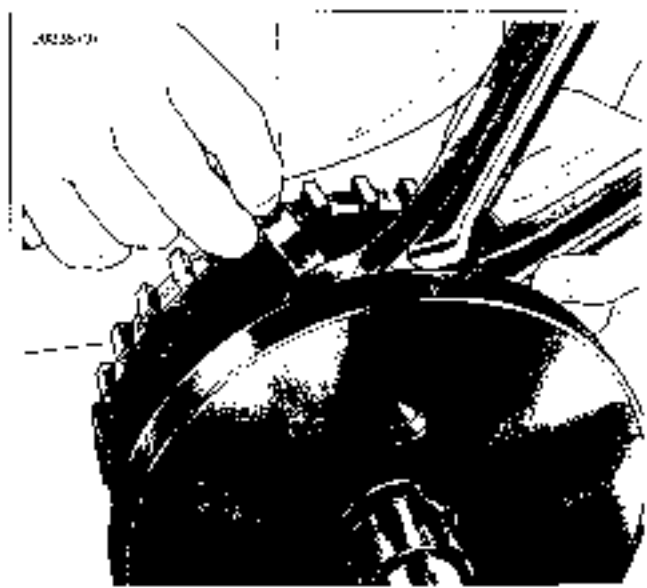

Figure 3-164. Connecting Rod Side Play
3. See Figure 3-164. Check connecting rod side play.